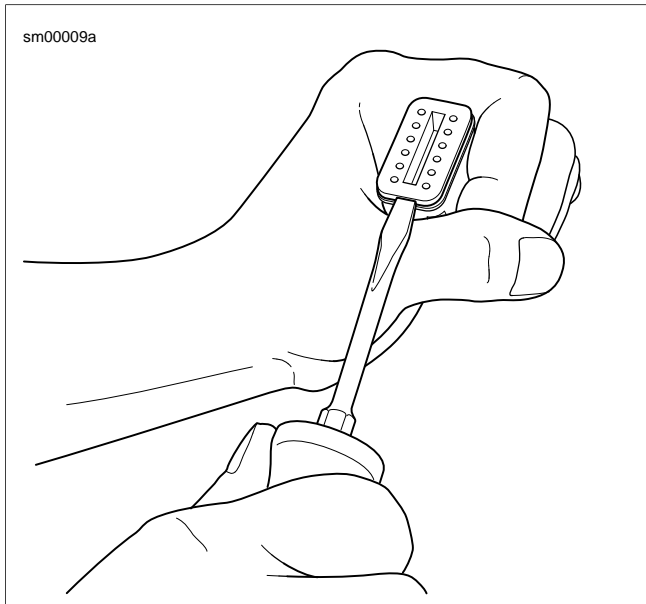

Figure A-30. Deutsch DT Sealed Connector: Remove Secondary Locking Wedge
1. See Figure A-30. Insert a small screwdriver between the socket housing and locking wedge in-line with the groove (in-line with the pin holes if the groove is absent). Turn the screwdriver 90 degrees to pop the wedge up and remove the secondary locking wedge.